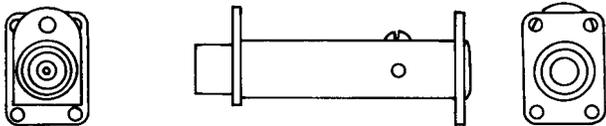

Fig. 4—579A Jack
**2.04 579A:** This coaxial-type jack (Fig. 4) is arranged to mate with the 440A and similar-type plugs. The center conductor is arranged for solder wire connections. The outer conductor is electrically common with the mounting plates and is tested at 1500 volts ac. This jack is used in the 63-Type Pad.